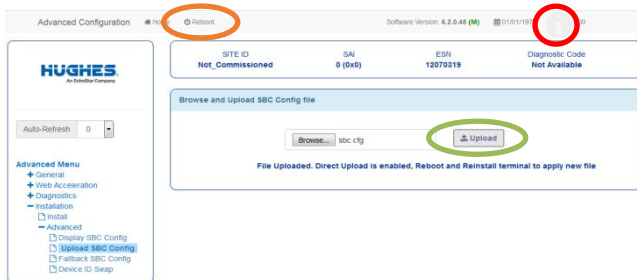

Figure 14
- On the top bar on the right click '**i**' icon to access the Advanced Page (fig. 14)
- On the main page browse your files, select the **sbc.bin** file, click on '**UPLOAD**' (fig. 14)
- Click '**Reboot**' on the top (fig. 14)